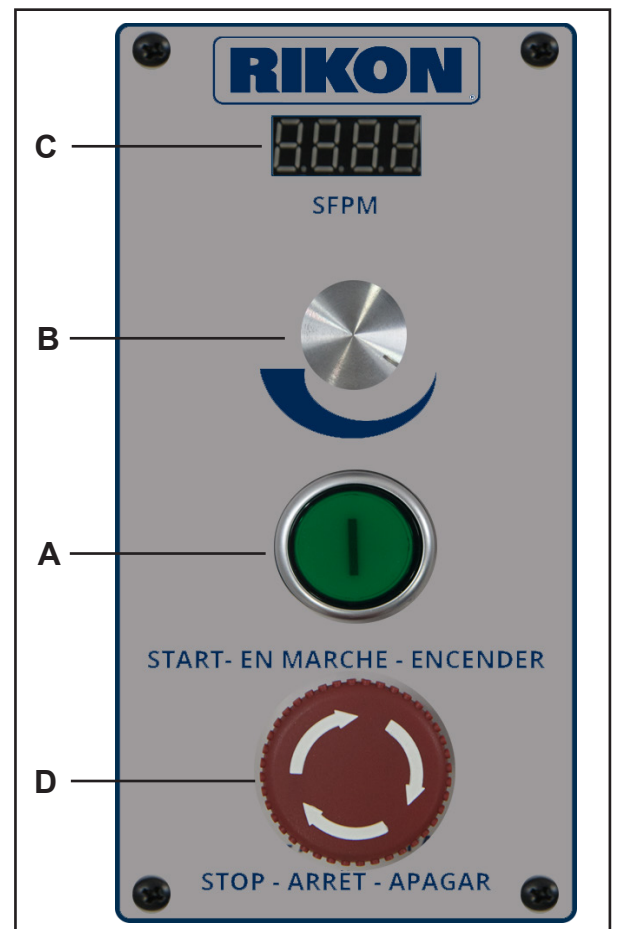

FIG. 43
To use within a specific belt speed range, simply turn the bandsaw on (FIG. 43, A) and rotate the variable speed dial (B) clockwise to increase the speed, and counter clockwise to decrease the speed.
NOTE: The variable speed dial will only increase speed to the highest speed shown depending on belt position. FIG. 43.